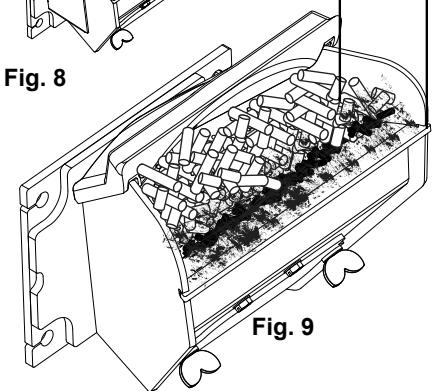

Fig. 9
7. Setting the feed adjuster # for maximum burn: With the unit burning in "AUTO", turn to "Stove Mode" and put the fan on "H". Set the Temperature Dial to #7. Allow the unit to burn for about 30 minutes and check ash on front of burn pot. Fig. 9. If the ash line is larger than 1", turn the feed adjuster from #4 to #5. Allow another 30 minutes of burn time and check again. If , at #6 setting, a 1" or less ash bed is not obtainable, it is not a problem. The 1" ash bed is only a maximum burn rate and at most normal settings the ash bed will be larger.